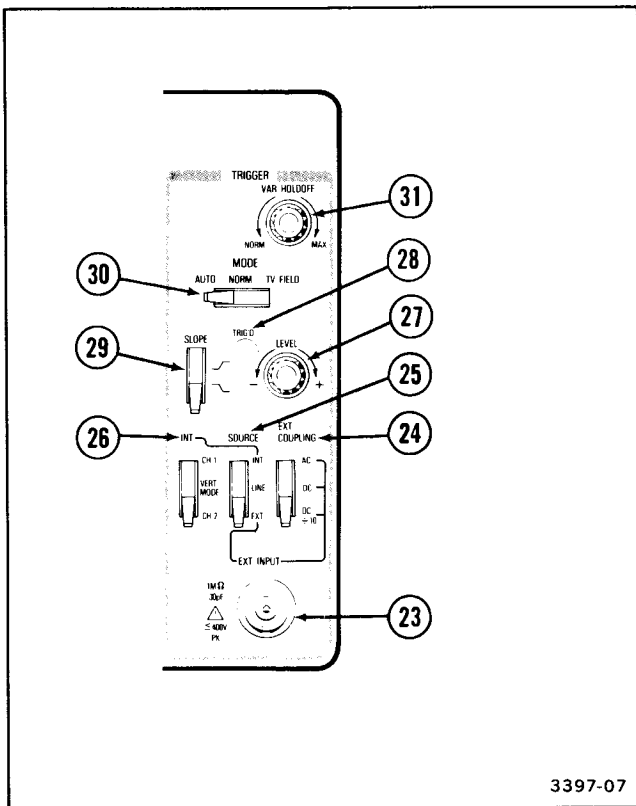

Figure 2-6. Trigger controls, connector, and indicator.
Refer to Figure 2-6 for location of items 23 through 31.